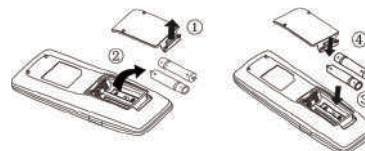

Fig 1
1. Lift the cover along the direction of arrow (as shown in Fig 1①).
2. Take out the original batteries (as shown in Fig 1②).